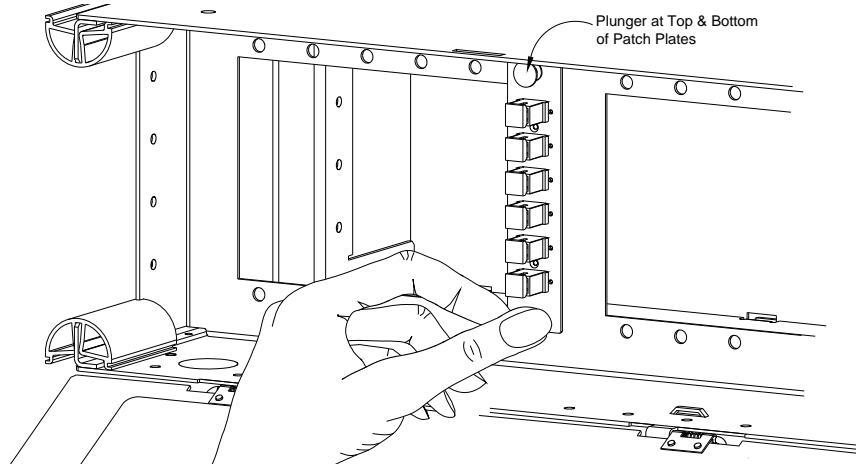

Figure 35 - Installing Adapter Pack & Special Function Modules
5. Install adapter packs and/or special function modules in configurable LCX Fiber Patch Panels. Figure 35 shows a 6-adapter pack being installed in a 4RU LCX Fiber Configurable Patch Panel. Push in the quick-connect plungers at both ends of the faceplate to lock the pack or module in the bulkhead.